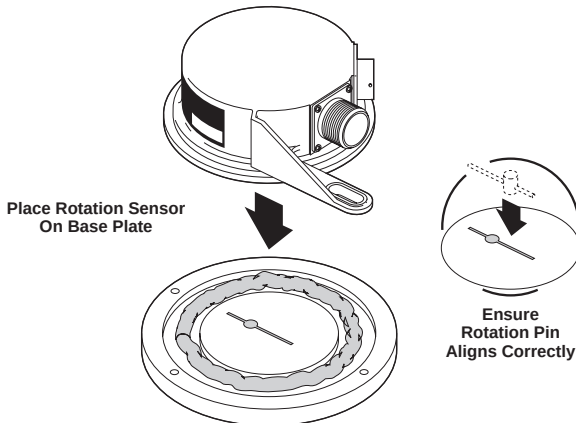

Figure 11-5. Replace Sensor on Base Plate
7. Place the sensor back on the base plate. Make sure the rotation pin seats firmly in the pin cavity—the pin will seat correctly only one way (Figure 11-5).